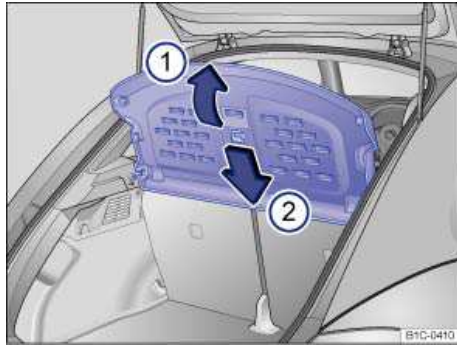

Fig. 89 In the luggage compartment: Installing and removing the luggage compartment cover.
- Fold the luggage compartment cover upward ⇒ fig. 89 (arrow (1)), until the luggage compartment cover releases from the side brackets.